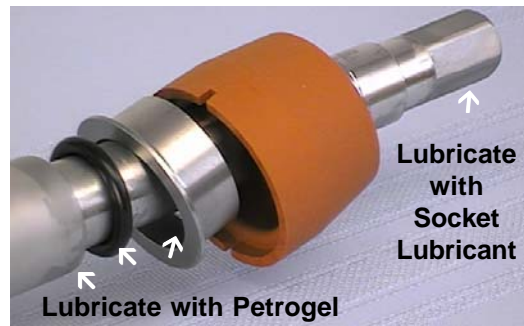

Figure 16. Rear Seal Lubrication
- C. Install stainless steel rear seal adapter into rear seal dry (without lubricant). Lubricate inside surface of rear seal adapter and install onto auger shaft. **DO NOT** lubricate outside of rear auger seal (see Figure 16).